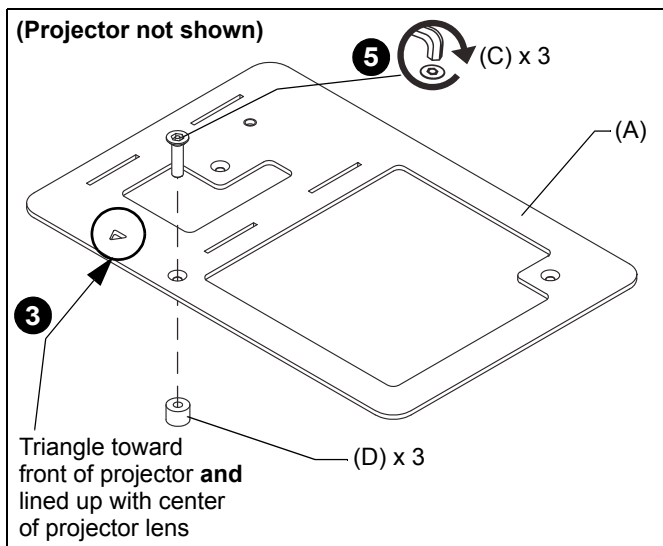

Figure 1
**IMPORTANT ! :** Line up the triangle on the interface bracket (A) with the center of the projector lens.
2. Place three spacers (D) over the threaded inserts in the bottom of the projector.
3. Place the interface bracket (A) onto the bottom of the projector, aligning the mounting holes in the bracket with the spacers and threaded inserts in the bottom of the projector, and ensuring that triangle in bracket points towards front of projector, and lines up with center of the projector lens. (See Figure 1)
4. Position M4 x 20mm flat head security screws (C) into the interface bracket (A) mounting holes, through the spacers and into the threaded inserts.